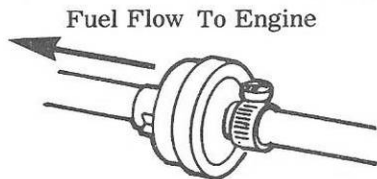

Fig. 33 Fuel Filter Alignment
2. Align the new filter as in figure 33.